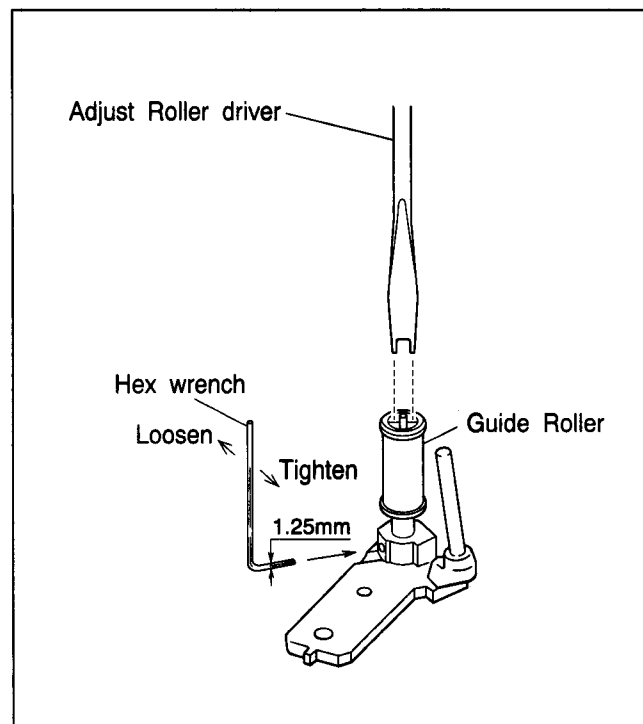
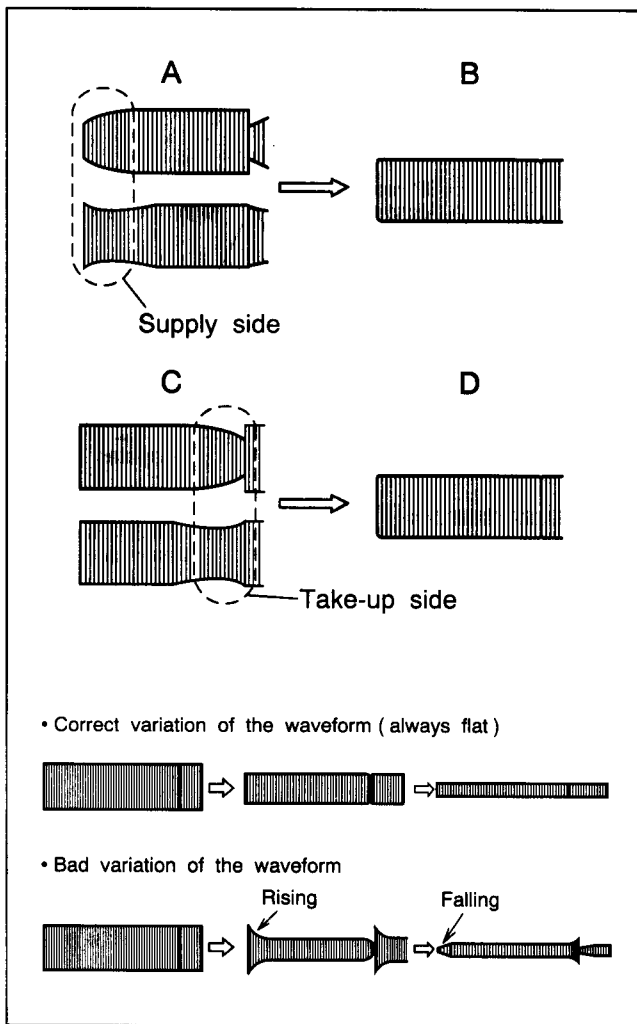
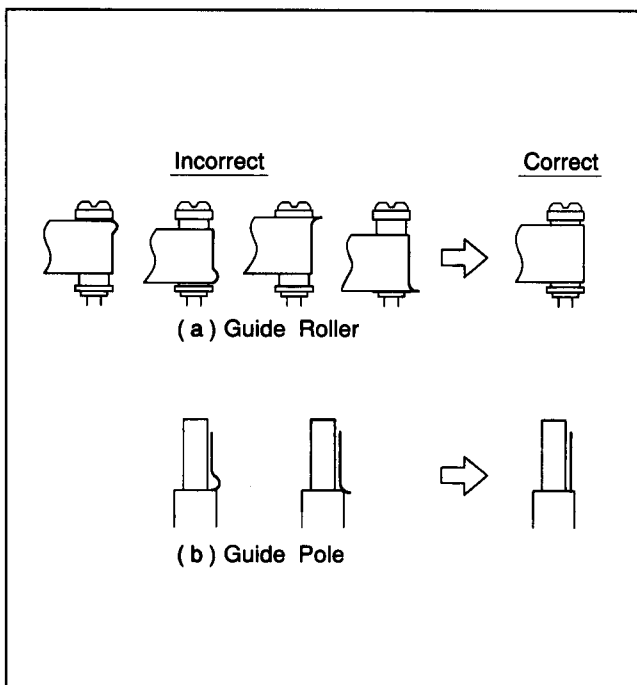

Fig. 2-7-2
Fig. 2-7-3
Fig. 2-7-4
- (6) When the FM waveform does not remain flat during this process,first slightly loosen the set screw located at the bottom of the guide rollers.Using the guide roller adjustment tool (Roller driver), adjust the supply and take-up guide rollers (refer to Fig.2-7-2) to obtain the correct waveform as indicated in Fig.2-7-3.
- (7) By pressing the CH buttons several times, vary the FM waveform output from maximum to minimum (and vice versa) gradually,and confirm that the variation proceeds in flat shape, as shown in Fig.2-7-3.
- (8) Next playback the LP stairstep portion of the alignment tape and adjust the tracking control from maximum to minimum the FM waveform,confirm that FM waveform variation is always flat.
- (9) Record the signal and play it back in both of the SP and LP mode,confirm that the FM waveform is flat in both mode.
- (10) After adjustments,tighten the set screw of the guide rollers.
- (11) Confirm that the tape wrinking does not occur at the roller upper or lower limits as indicated in Fig.2-7-4.